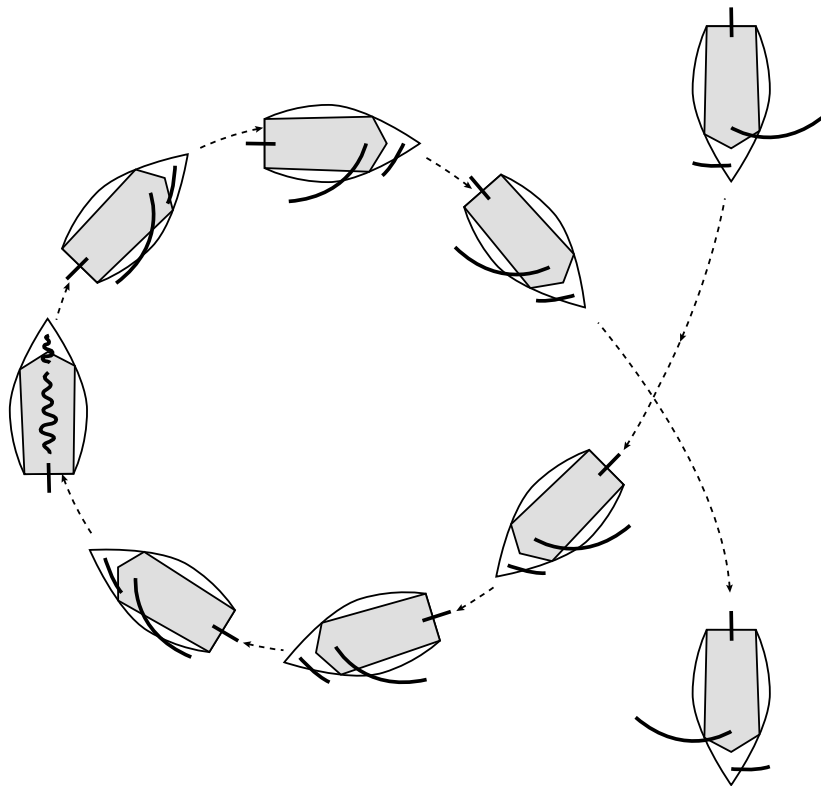

Fig. 19: stormrondje
1.2.7 GIJPEN DOOR OVERSTAG TE GAAN (STORMRONDJE) (FIG. 19)